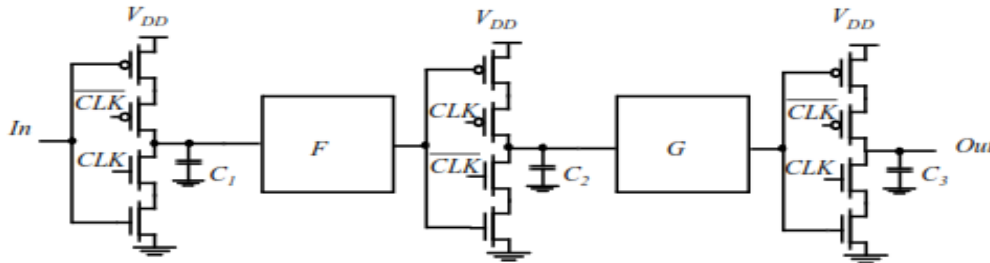

Figure 3.24 Pipelined datapath using C²MOS latches
- The latch-based pipeline circuit can also be implemented using C²MOS latches, as shown in Figure 3.24.